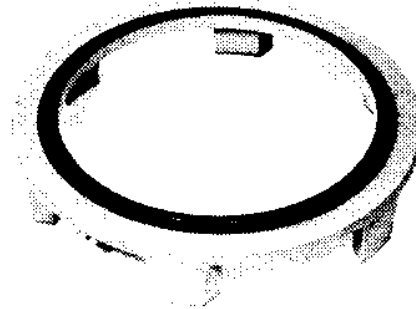

FIGURE 6-49
4. Inspect the bracket or adapter for stripped threads, cracks, and burred or rough mating surfaces. (Figure 6-49 and 6-50.)